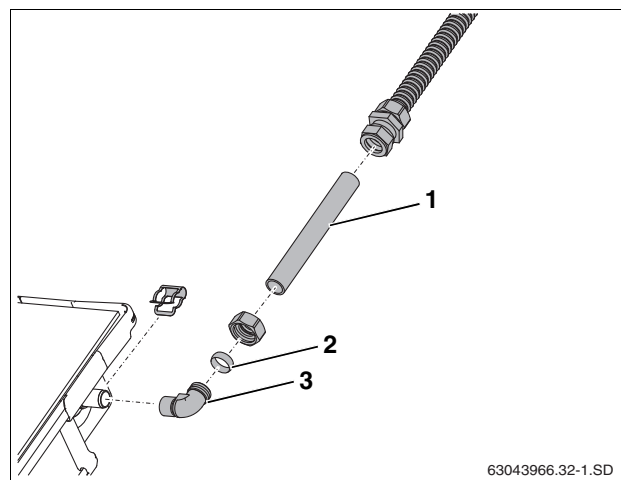

Fig. 57 Extending the length of the connection pipe
- Slide union nut and compression ring (Fig. 57, [2]) over the copper pipe (3/4" (18 mm), Fig. 57, [1]).